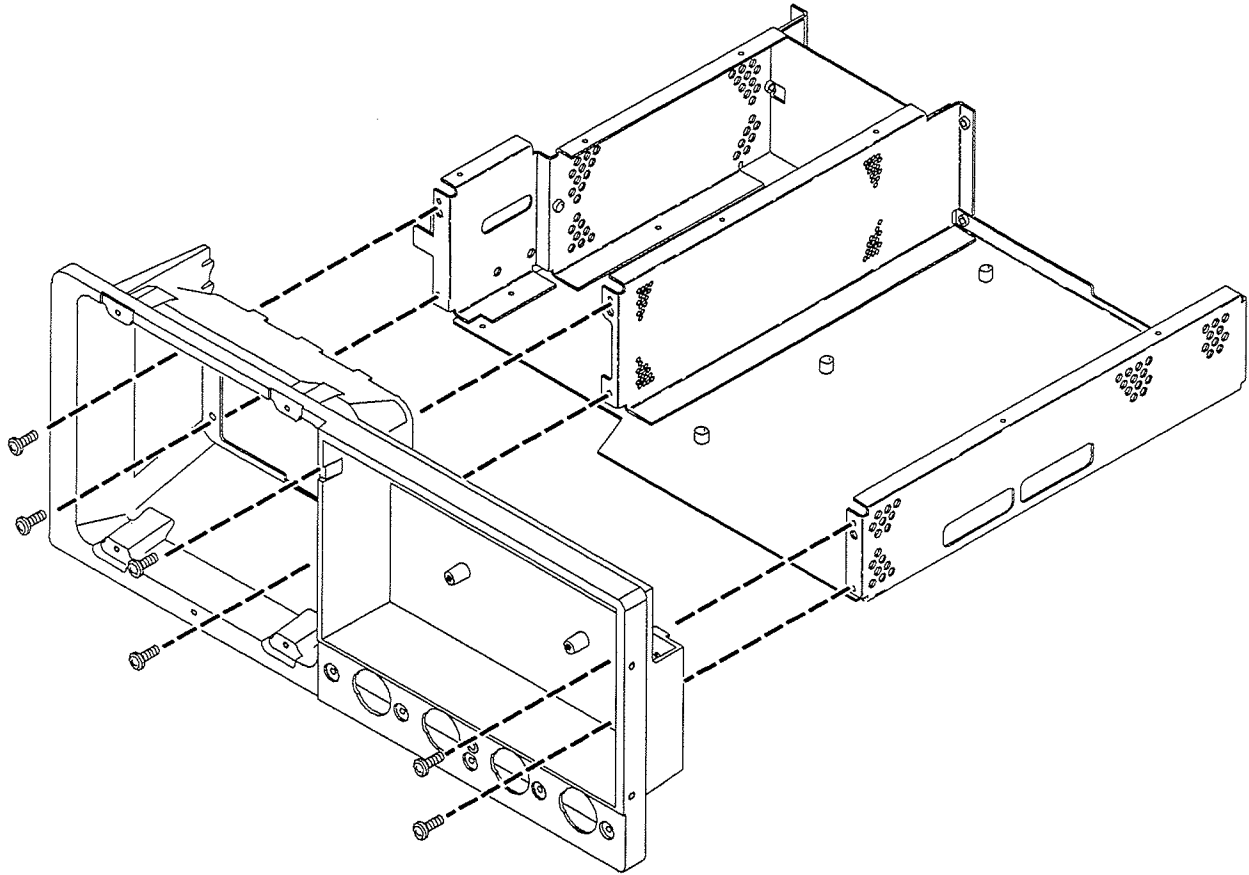

Figure 6-20: Front Subpanel Removal
3. *Remove the front subpanel:* Remove the six screws securing the front subpanel to the main chassis. (See Figure 6-20 for screw locations.) Lift the front subpanel up away from the main chassis to complete the removal.
- a. Align the front subpanel to the main chassis, taking care to ensure that the main chassis slips into its alignment slot on the front subpanel (see magnified view, Figure 6-20.) Then reinstall the six screws removed in step 3.
- b. Remove the six screws securing the front subpanel to the main chassis. (See Figure 6-20 for screw location.)